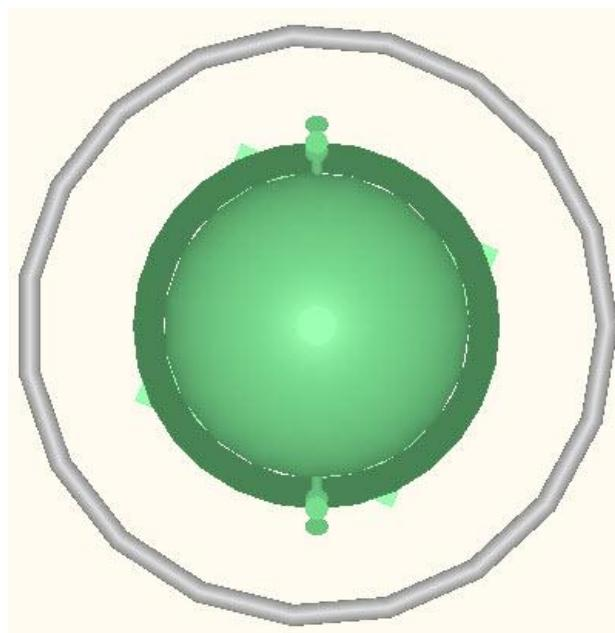

Figure 14.9: Plan View of Tank-01
13. Change the Angle to 360 deg then Finish. The piping should look like Figure 14.9.